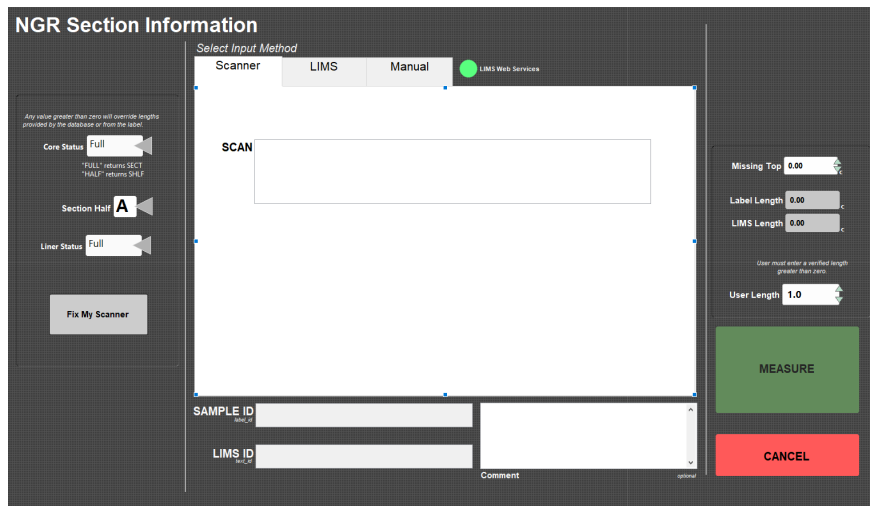

Figure 11. IMS-NGR Section Information window
- Press the **Start** button (Figure 2) on the NGR Core Analyzer screen to initiate a run. The **Section Information** dialog window will appear (Figure 11). Use the barcode scanner to scan the section's label. Its information will be retrieved from the database; however, the user must verify the physical length of the section (**User Length**) and enter it before measurement can begin.